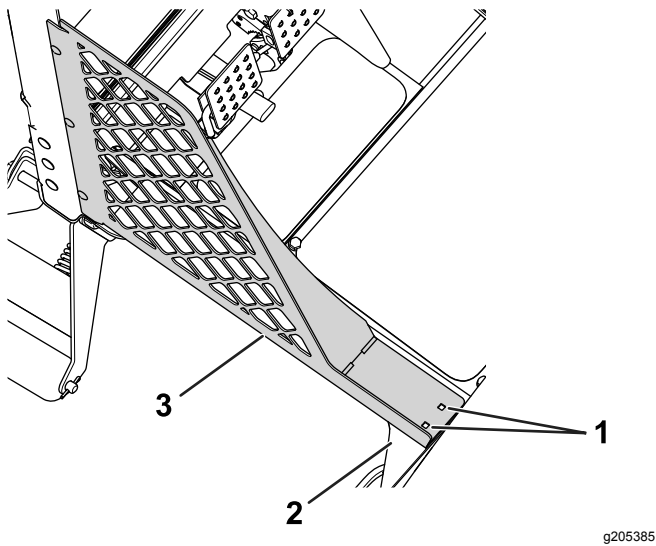

Figure 1
- A. Mark the areas where the lower panel assemblies meet the foot platform (Figure 1).